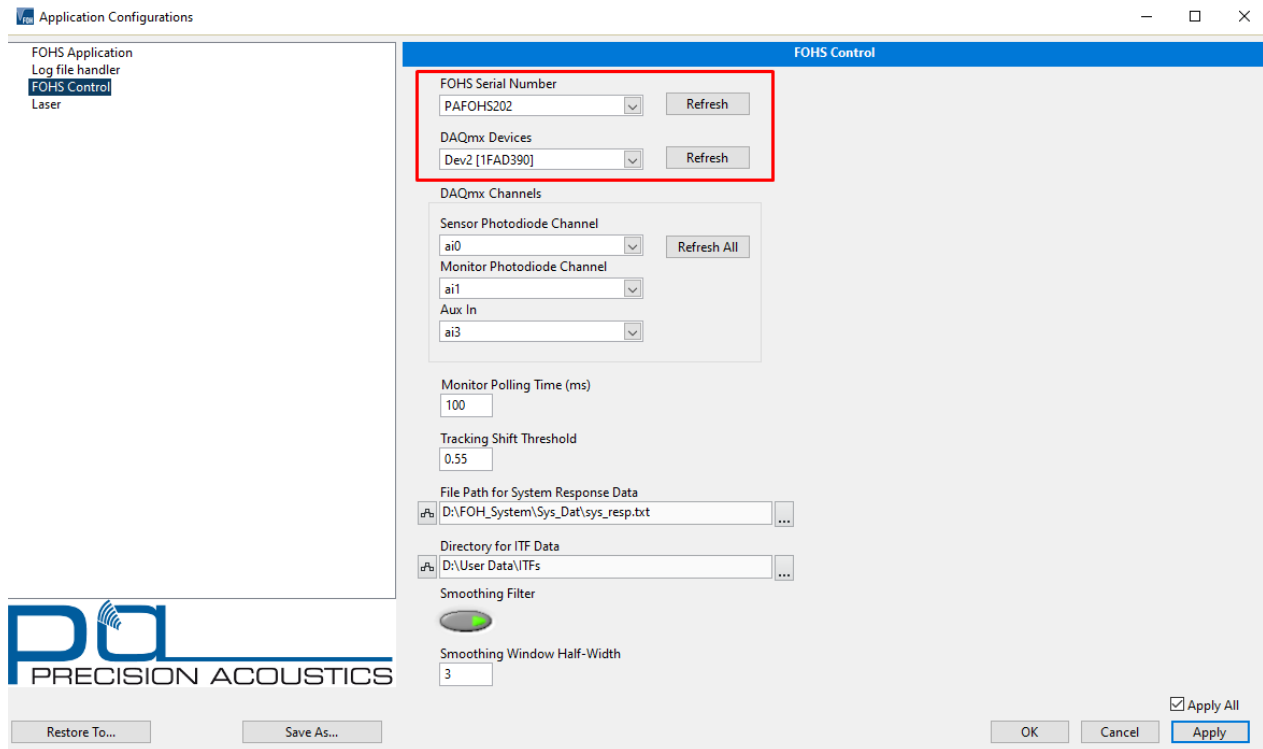

Figure 18. Example PAFOHS202 serial number configuration.
4) Navigate to the configuration page titled '**FOHS Control**'. Verify that the page is configured sensibly as shown below (Figure 18).